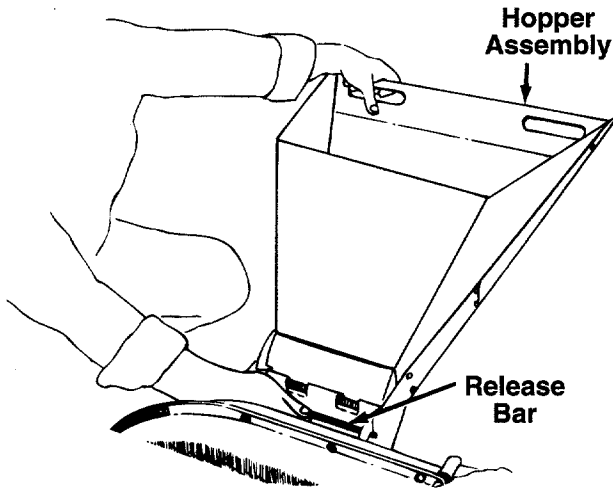

FIGURE 10.
RELEASE BAR—Used to release the hopper when raising or lowering. See figure 10.
- To lower the hopper assembly, use one hand to grasp the handle at the top of the hopper assembly and lift slightly. Pull up on the release bar, and lower the hopper assembly to the ground. Release the bar. See figure 10.